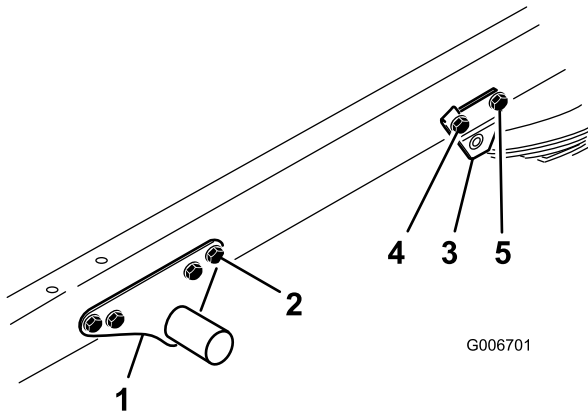

Figure 16
2. Remove the flange screw and locknut, shown in Figure 16, securing each side of engine frame to vehicle frame.